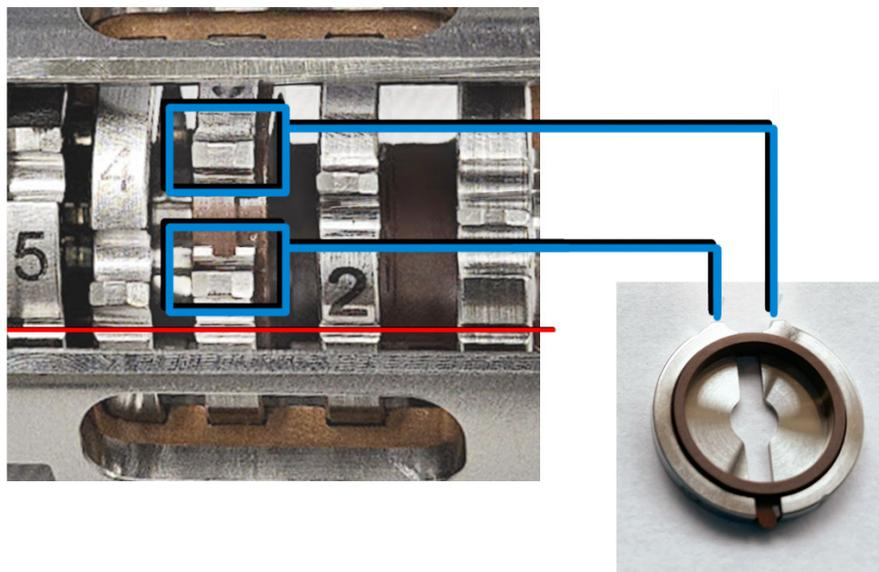

Figure 62. Assembled EI HES 2.0 lens stack
- 1 Assemble the five lenses inside the lens insulator. (See Figure 62.) The lens number is engraved into the outer circumference of each lens.
- a Starting with the extended entrance lens (1), set the lens into the end groove in the lens insulator and rotate the lens until you feel the ball seat into the circular recess on the back of the lens insulator.